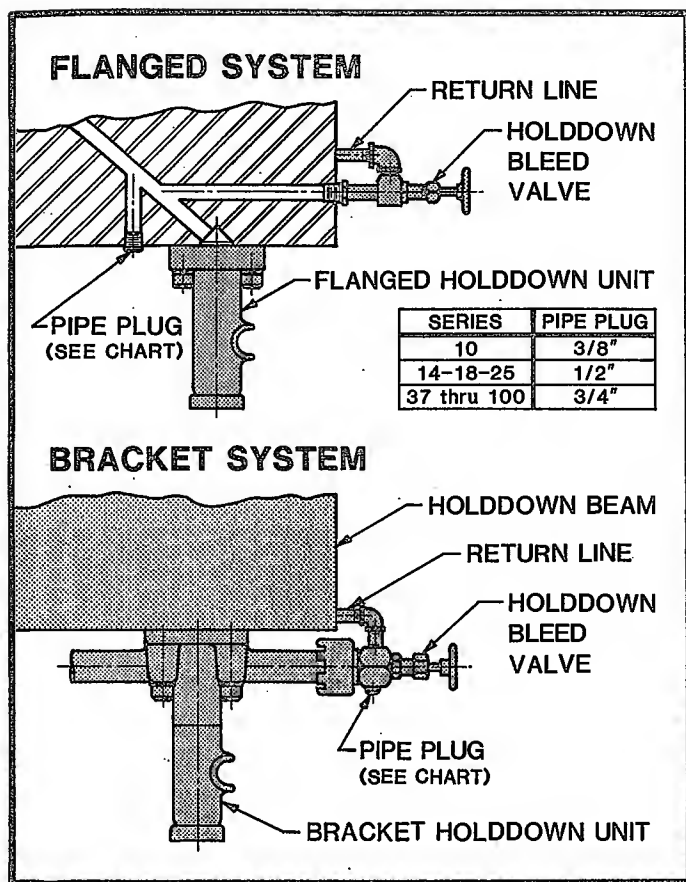

FIGURE 98
3. Refer to Figure 98 to determine the type of holddown units, bracket or flanged, on the shear. Remove the pipe plug from either the holddown bleed valve or bottom of the holddown beam, depending upon type of holddown unit. Use a pint container to collect oil that drains from the hole.
To check the hydraulic holddown pressure use a vertical reading, snubbed type pressure gage. We recommend a Schrader #630-9020 pressure gage or its equivalent. Due to the different size pipe plugs in the holddown beam or holddown bleed valve (See Figure 98), reducer bushings will be required to adapt the pressure gage.